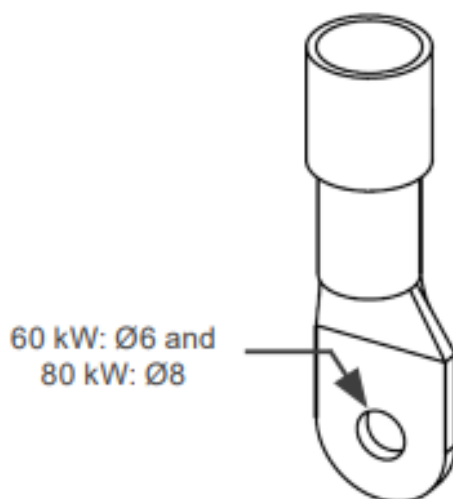

Figure 3.13: Lug terminal specification - mm [in]
The WEMOB-STATION is connected to the grid directly on the Q1 circuit-breaker terminals (Phases R-S-T) and on the Ground (PE) bar (grounding of the structure), as shown in Figure 3.13 on page 3-13.
The connections on the “Q1” circuit-breaker terminals must be made using lug terminals, pre-insulated or crimped, respecting the following recommended limit on Figure 3.13 on page 3-13.